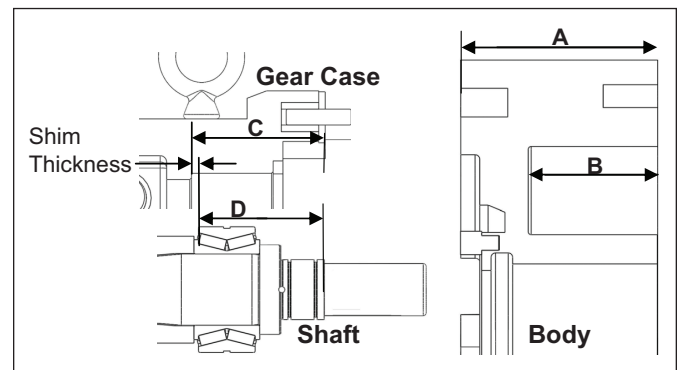

Figure 47. Calculating Shims
3. Shims located on the shaft behind the front bearing control the backface clearance of the pump; the space between the body and the rotor. If neither the shafts or bearings are being replaced, use the shims (if properly marked) removed at disassembly and reuse making sure they are installed in the correct bores. If replacing shafts or bearings, a process of calculating the required shims is necessary. Use *Figure 47* and the following equation to calculate. To find the correct backface clearance see *Table 10, page 42*.